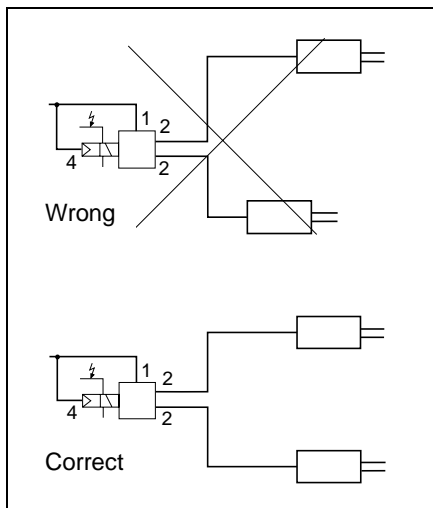

Fig. 1
operating ports (2) should be used, with similar lengths of pipe to the brake cylinders (see Fig. 1). Their nominal width should be between 9 and 11 mm.